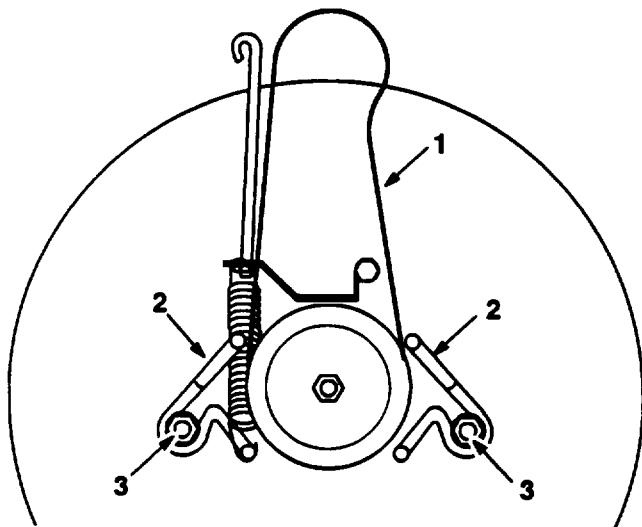

Figure 45
2. Loosen the belt guide mounting bolts and move belt guides away from the pulley (Fig. 45).
1. Install the new belt around the blade pulley and inside both belt guides (Fig. 45).
2. Adjust the belt guides so they are 1/8" away from the pulley and tighten mounting bolts (Fig. 45).